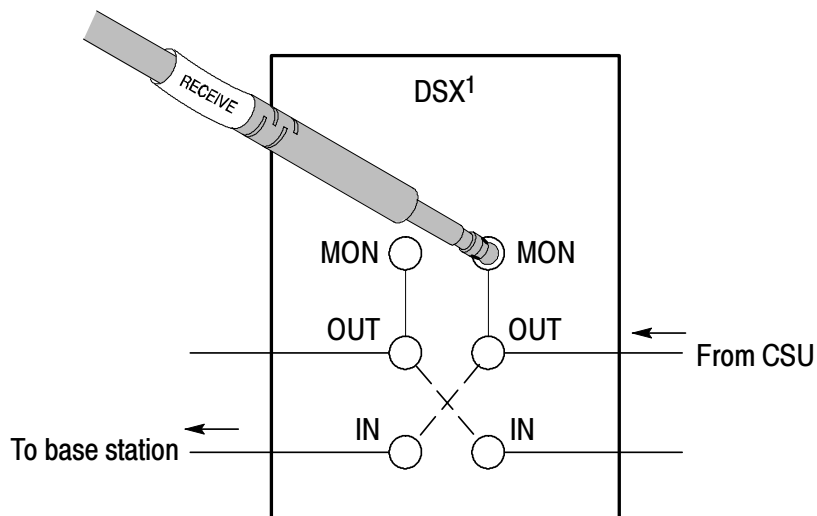

Figure 3-2: Typical connection for single-port monitoring
3. Connect the Bantam **Receive** plug to the **MON** monitor jack on the DSX¹ service panel as shown in Figure 3-2.